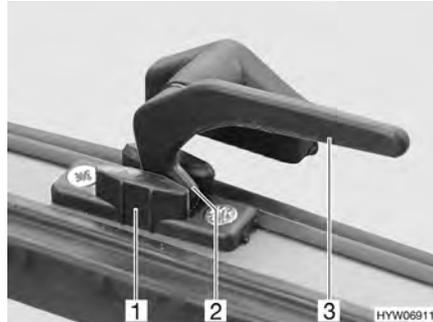

Fig. 80 Catch lever in the "continuous ventilation" position
- "Continuous ventilation" (Fig. 80)
- Turn all catch levers (Fig. 80,3) a quarter turn towards the centre of the skylight.
- Return all catch levers to their initial position. The locking catch (Fig. 80,2) has to be moved into the recess of the skylight lock (Fig. 80,1).